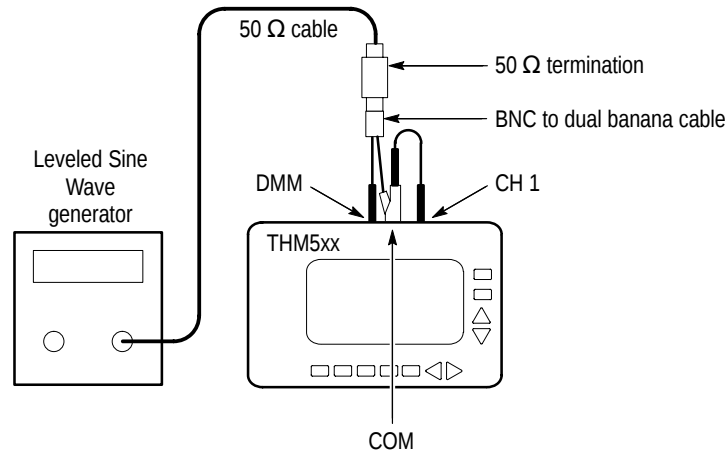

Figure 9: Crosstalk Between DMM And Scope Test Setup
1. Connect the leveled sine wave generator output to the THM500 series instrument DMM and COM inputs. Use a 50 Ω termination as shown in Figure 9. Assure that the ground connection for each adapter connects to the common (or ground) connector of its associated instrument.
2. Connect the THM500 series instrument CH 1 input to the COM input using a patch cord as shown in Figure 9.